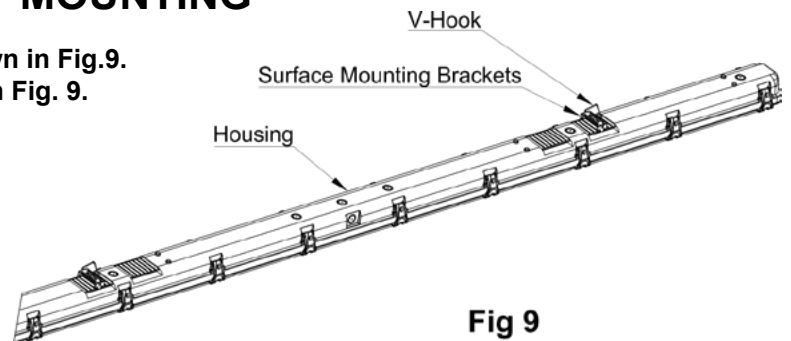

Fig 9
1. Secure Surface Mounting Brackets to Housing as shown in Fig.9.
2. Loop V-Hook on Surface Mounting Bracket as shown in Fig. 9.
3. To suspend Housing, connect each V-Hook to two equal lengths of chain (not supplied) and/or appropriate hardware (by others) suitable for mounting surface. Chains must be suitable to support four (4) times the weight of the fixture.